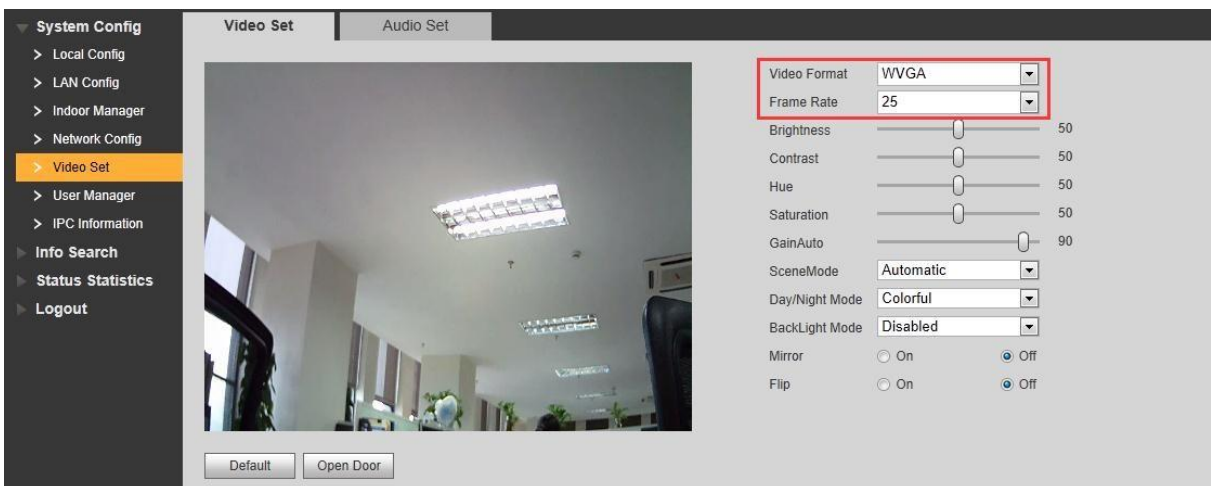

Figure 2-4
- b) Now you can set local information. See Figure 2-4.